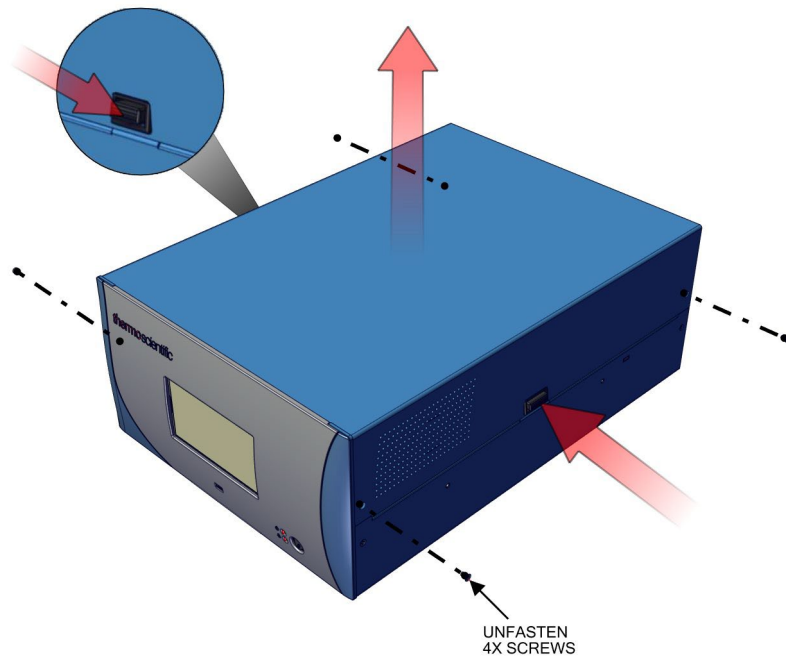

Figure 2-1. Removing the Cover
2. Remove the cover to expose the internal components. (See “Figure 2-1” on page 2-2.)